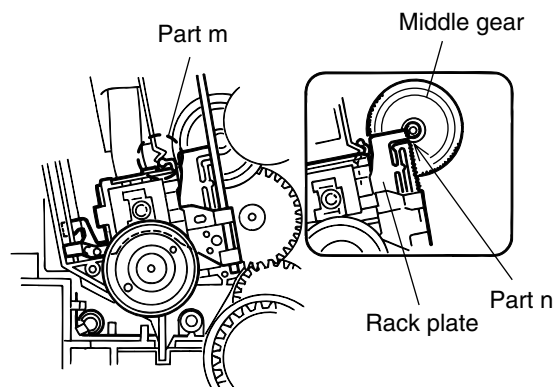

Fig. 16
3. Engage the hook k of the pickup assembly with the CH. base assembly first, and set the part j of the rack plate in the opening l next. Then, reinstall the pickup assembly while shifting it to the T-T side (inward) so that the part m of the rack plate is positioned as shown in Fig. 16.